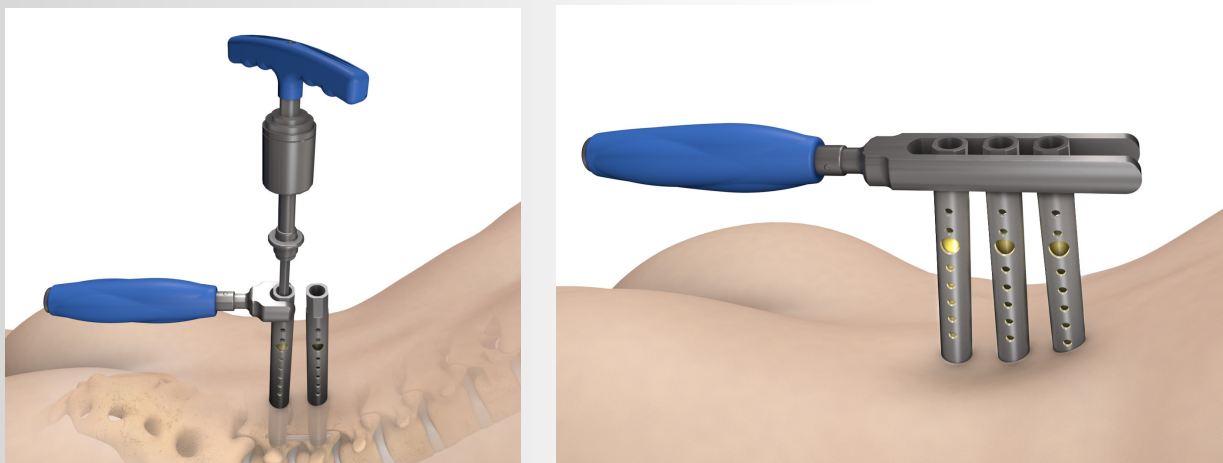

Figure 28 (Left: A type, Right: C-type)
A. The top of the Support Towers interface with the **Anti-torque A type** (Figure 28, left). The Anti-torque A type can be used, if needed, to secure the Support Towers in fully seated position by applying downward force on the Support Towers during the application of compression or distraction.
B. The **Anti-torque C type** (Figure 28, right) can be used for final tightening of the Set Screws with the Multi-level Compressor/Distractor in place. The **Torque Wrench** must be used for final tightening of the construct.